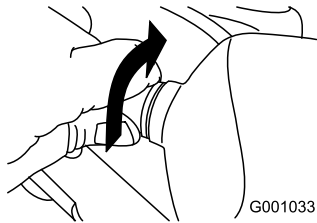

Figure 63
2. Turn the base of the bulb counterclockwise until it stops (Figure 63).